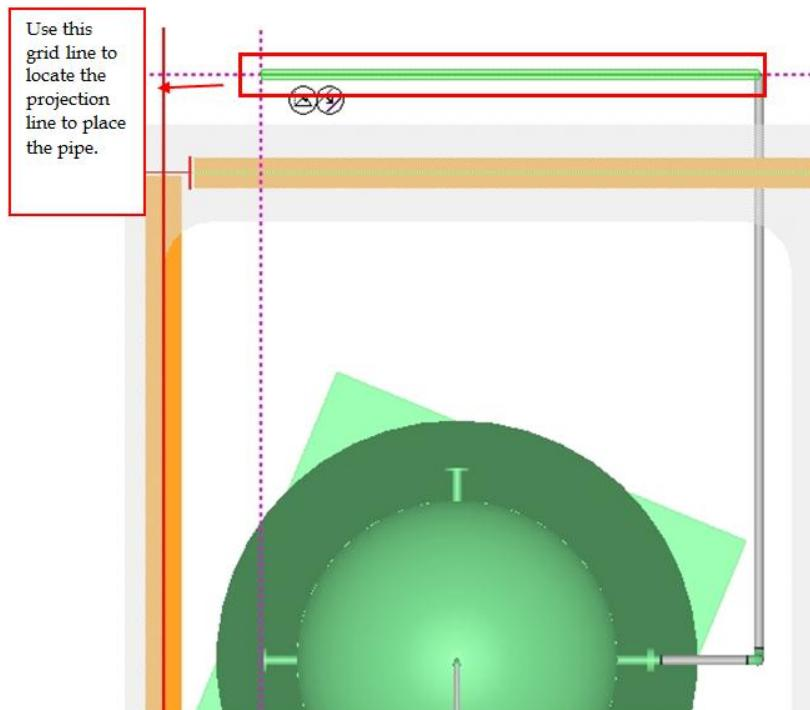

Figure 4.58: Placed Pipe
17. Move the cursor in the west direction to locate the grid line highlighted in Figure 4.58 and add it to the SmartSketch list.
18. Move your cursor straight towards the right. The system displays a projection line that indicates a **2 ft** offset from the selected grid line. Then, click in the graphic view to place the pipe, as shown in Figure 4.58.